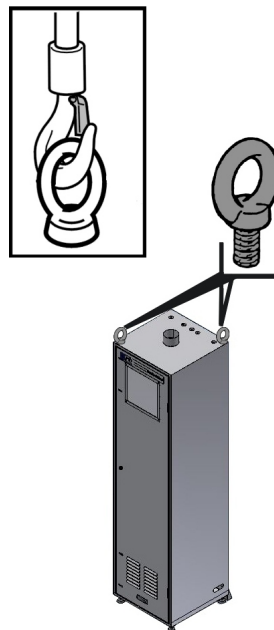

fig. 7.15
2. Before connecting the cables for lifting, check the eyebolts are secure (fig. 7.15);
3. Insert the cable hook in the hole of the eyebolt; make sure it is screwed tightly to prevent it escaping (fig. 7.15);